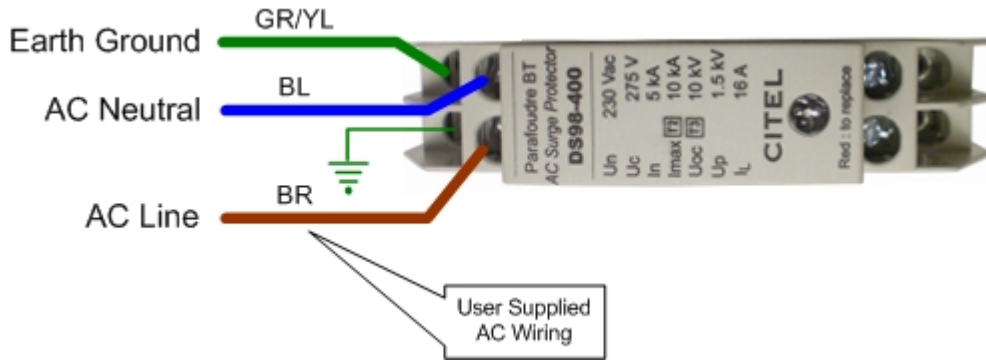

Figure 2.4.1-1 User AC Power Wiring
3. Feed the power cable into the enclosure through the cord grip. Strip ~6 mm (1/4") of insulation from each of the three conductors and connect them to the line (left) side of the Surge Protection Module as shown per Table 2.4.1-1 and in Figure 2.4.1-1.